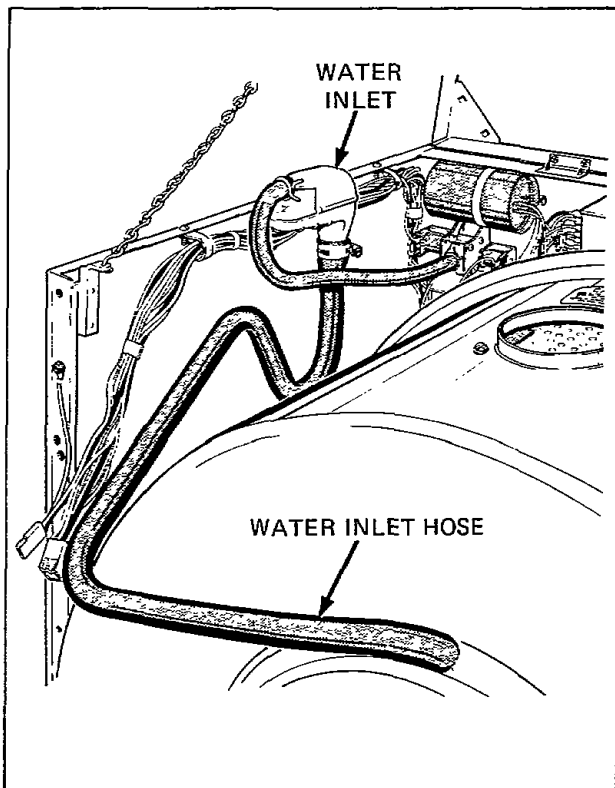

Figure 26
27. WATER INLET (Refer to Figure 26)
- f. Disconnect water inlet hose from water inlet and from outer tub, *Figure 26*.